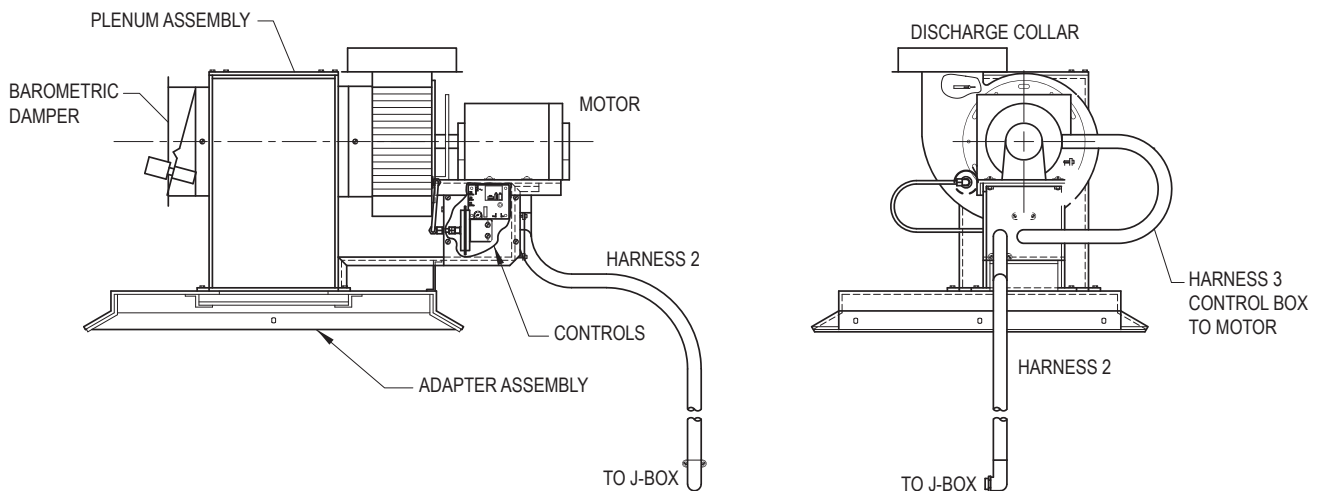

Figure 4. Orientation, Models 0514-0824
3. Locate the plenum assembly to the jacket top, using the silicone sealant and screws provided. Use a #28 drill (.1405") to drill the eight (8) holes needed for the mounting screws. The assembly will be positioned towards the rear of the heater. Note that the main housing is centered on the flue collar of the unit. The discharge collar is offset from that. See table C for dimensions. Once the screw holes have been drilled, run a bead of silicone sealant around the perimeter of the joint and screw the housing into place.
6. Identify and lay out the conduit-enclosed wiring harnesses per the orientation drawing, **Figure 4**.
The D-1 Power Vent for these sizes is installed in the field, directly on the top panel above the built-in drafthood. The adapter plate is anchored to the top using the silicone sealant and screws provided. Refer to Figure 4.